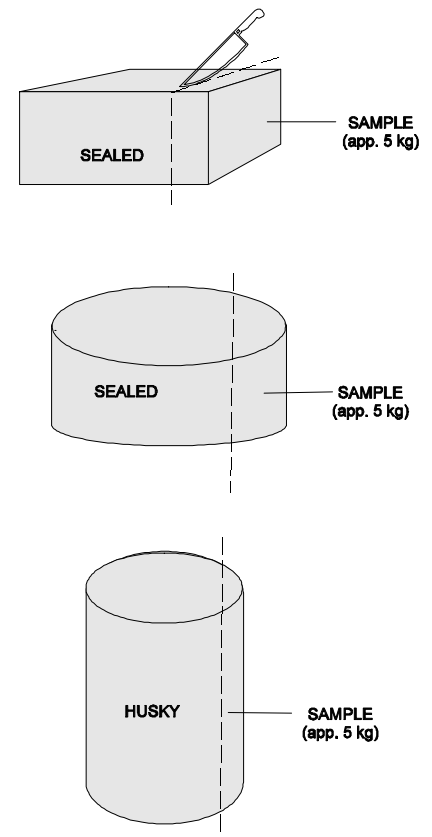

FIGURE 3
3. Use a clean knife to cut off a slice of material straight down to the full depth of the block, as shown in Figure 3.